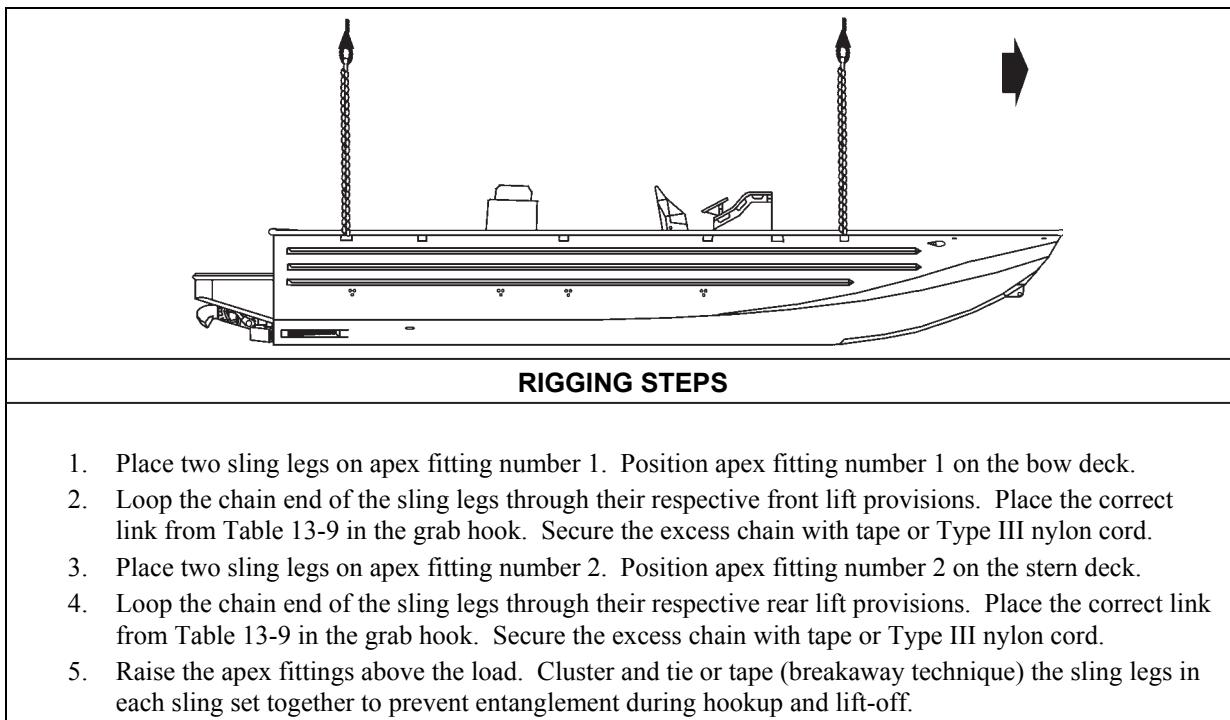

Figure 13-9. Special Operations Craft-Riverine
- **Rigging.** Rig the load according to the steps in Figure 13-9.